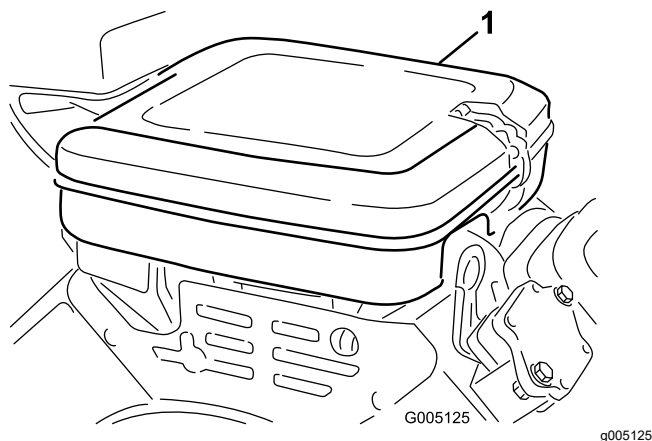

Figure 39
1. Clean the air-cleaner cover (Figure 39).